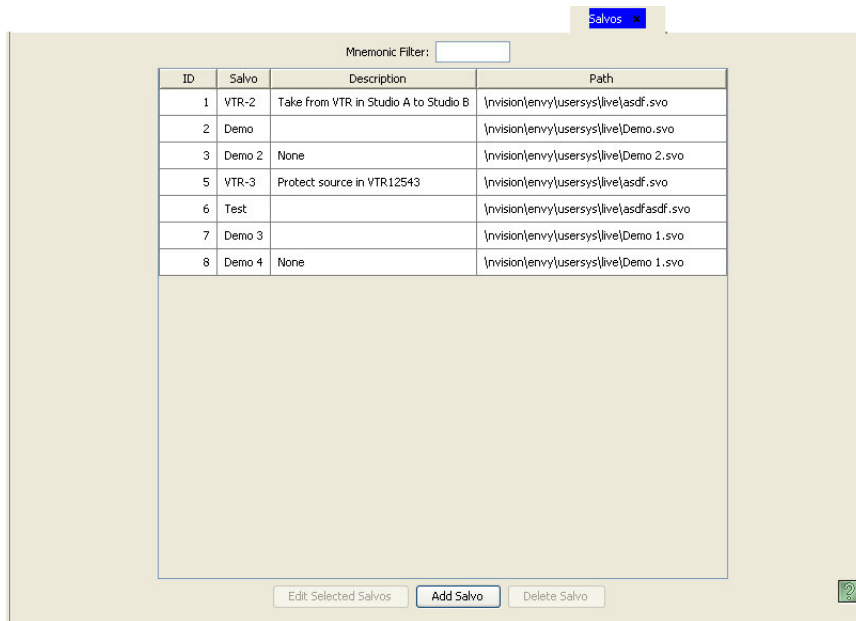

Figure 15-17. Salvo Page
- 2 From the Navigation area, select the 'Configuration' pane and then 'Salvo'. The 'Salvo' page displays, as shown in Figure 15-17.